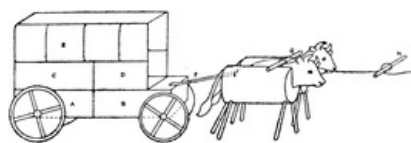

FIG. 135
**South African Trek waggon** (Fig. 135). This is made from two match-box covers, A and B, fastened together by a strip of paper; two match-boxes, C and D, are gummed to the top; part of one box, D, is cut away as in the figure. A strip of brown paper must be gummed along A and B, and a piece along the bottom of boxes C and D; the outsides of C and D may be left their ordinary blue colour. A piece of bluish-grey paper, E, is folded in three and gummed inside the sides of boxes C and D, as in figure; three or four divisions should be pencilled on each paper side. The wheels are cut out of cardboard—the large wheels should be somewhat larger than a penny, the small wheels a little smaller—these are gummed to the sides. F is a strip of brown paper, through which a piece of thread passes to fasten the waggon to a stick, G, gummed across the oxen's backs; this can be fastened to a stick, H, and so on. Five pairs of oxen should be yoked to the waggon in this way.